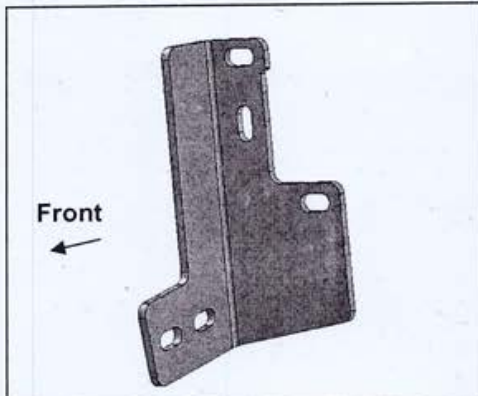
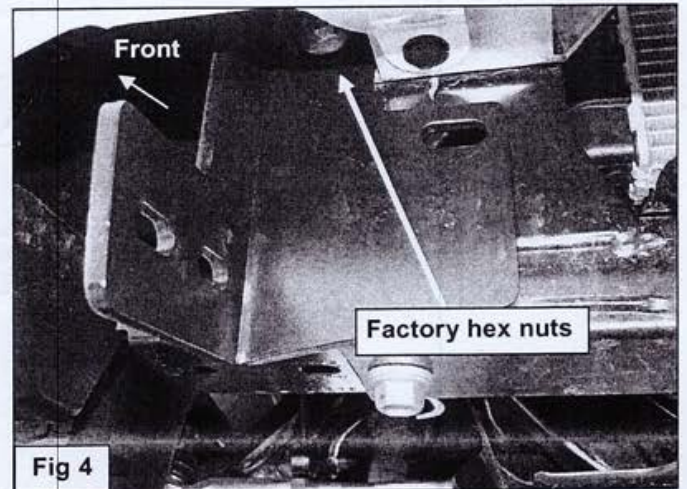

Fig 3 Passenger/right frame Bracket
Fig 4
3. Select the passenger side frame mounting bracket, (Figure 3). Slide the Bracket over the (2) threaded studs. Secure the Bracket to the studs with the factory hex nuts, (Figures 4 & 9). Leave hardware loose at this time.